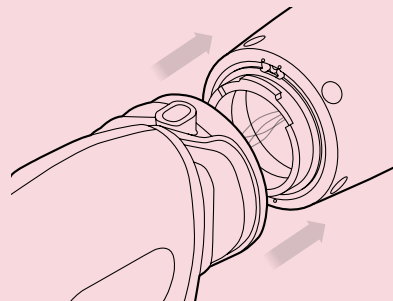

Figure 4: alignment and attachment of the hand.
5. Rotate the hand 90 degrees from the centre of the rotation lock and guide the hand onto the collar (see figure 4 below). Take care to not catch loose wires.